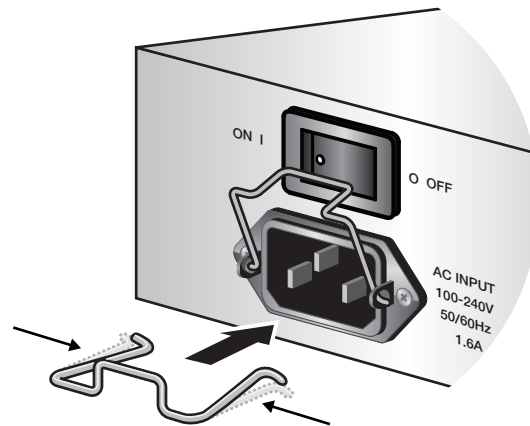

Figure 23. Inserting the retaining clip into the retaining bracket
2. Install the clip on the AC power connector on the power supply module. With the 'u' of the clip facing down, press the sides of the clip toward the center and insert the short ends into the holes in the retaining bracket, as shown in Figure 23.